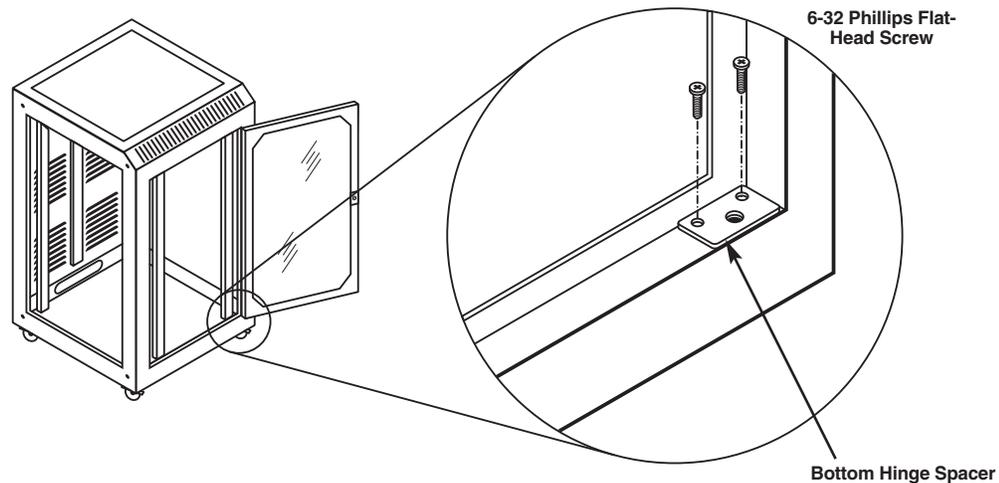

Figure 9. The bottom hinge spacer.
4. Relocate the bottom hinge spacer (Figure 9) on the front and rear door frame to the opposite side of the cabinet by removing two Phillips 6-32 flat-head screws, aligning the spacer over holes on the opposite side of the frame (countersinks facing up) and attaching with screws.